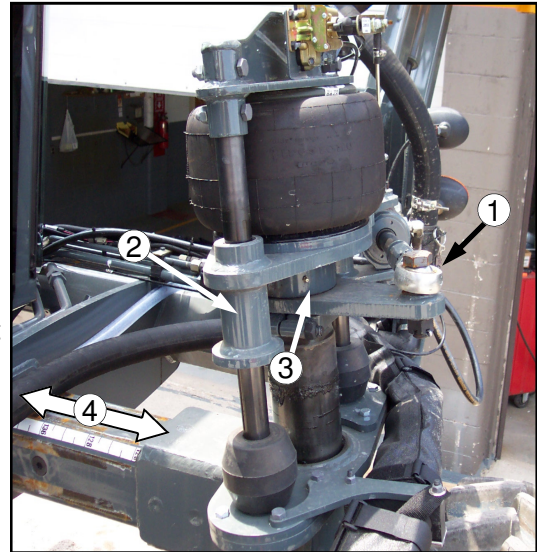

FIG. 6.14-1
**LEGS AND STEERING**– The front legs have a grease zerk in the tie rod ball (figure 6.14-1, item 1) that needs greased every 50 hours or weekly.
Both the front and rear legs have two grease zerks, one in each of the tower bearings (figure 6.14-1, item 2) that must be greased every 50 hours or as necessary. There is a zerk in the collar (figure 6.14-1, item 3) that also needs greased every 50 hours or as necessary.
The slide path of the tread adjust (figure 6.14-1, item 4) should be greased every 50 hours depending on the amount of usage.